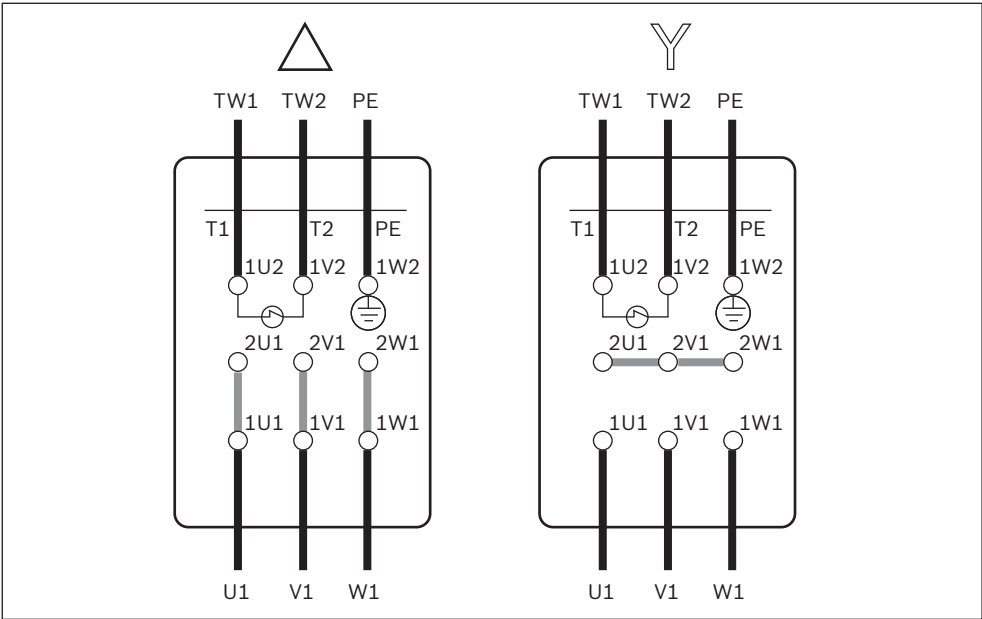

Fig. 18: Delta/ye connection diagrams
- Optional motor connection with plug (AT = S), see Fig. 18 on page 34. Observe the pre-fuse!